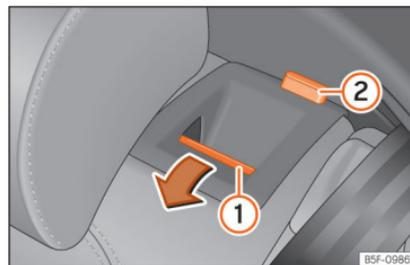

Fig. 123 Rear seat: folding the backrest.
- Press the unlock button »» Fig. 123 ① forwards and at the same time fold the backrest down. The rear seat backrest is not engaged when the red marking of the button ② is visible.